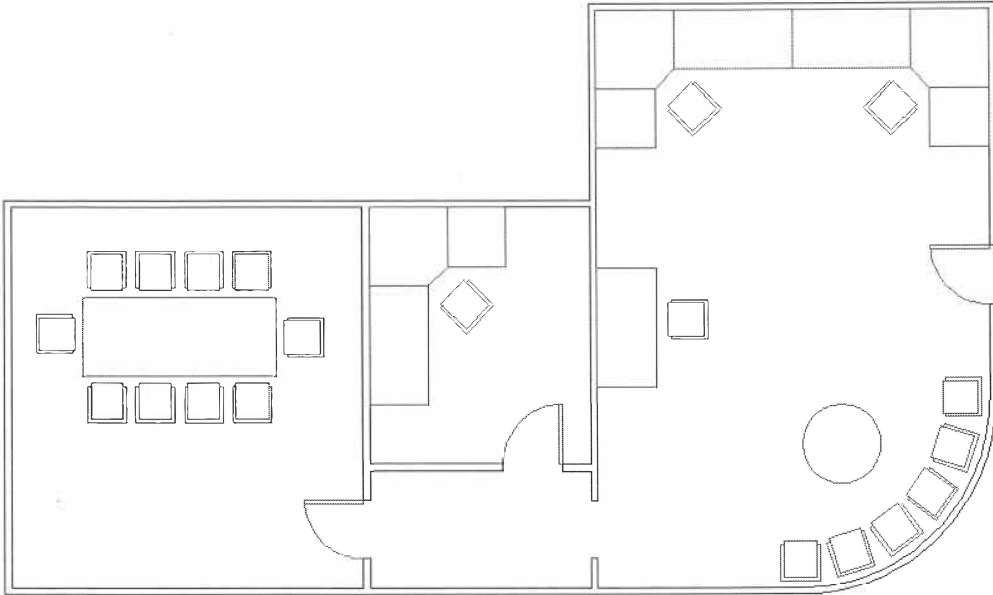

Figure 6–3
In this project, you will create blocks for office furniture and insert them into a floor plan, as shown in Figure 6–3.
2. Create the blocks shown in Figure 6–4. All of the objects should be drawn on the layer **Furniture**, except the door which should be drawn on layer **Doors**. Do not create the text captions and dimensions.